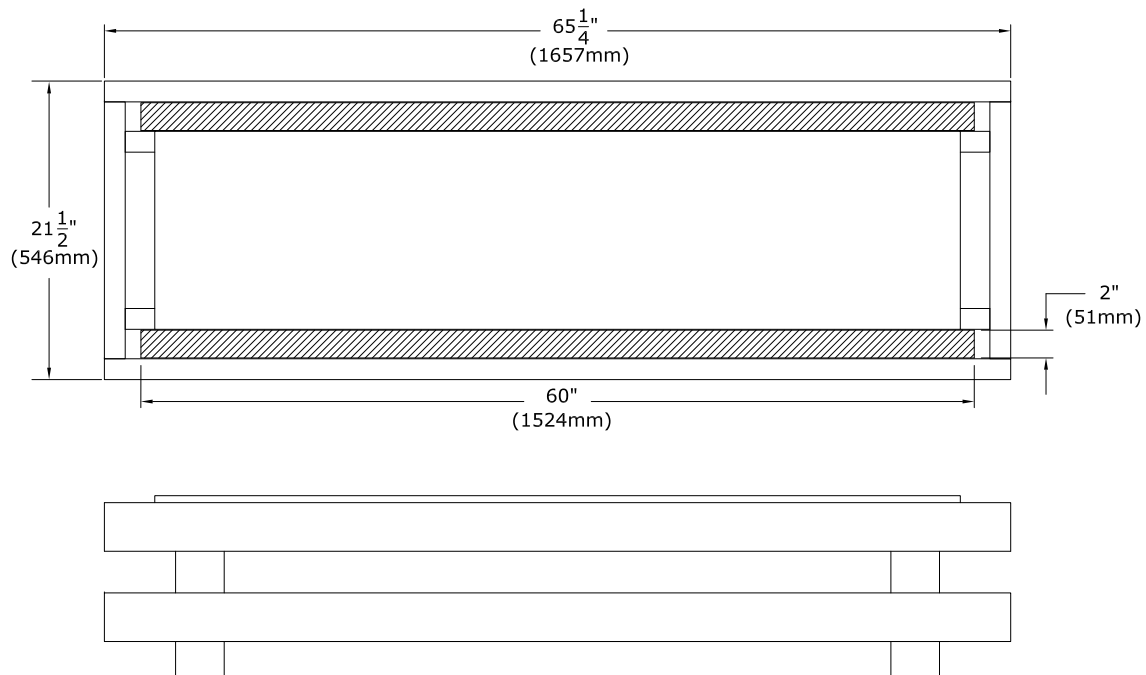

Figure 4.5 - Elevated Platform
- If you want to elevate your fireplace but want the air intake opening at the floor or at a lower location than the bottom of the fireplace you can construct the fireplace platform as shown in Figure 4.5. You will leave two 2"x60" openings (one in front and one in back) in the platform base for air supply to the fireplace. These openings feed the front and back fans.